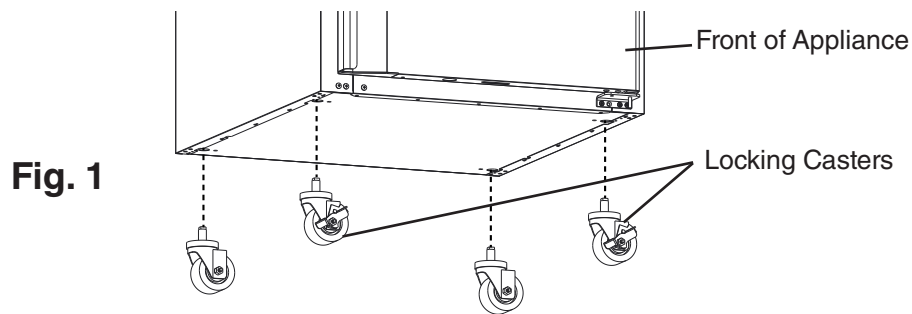

Fig. 1
- a) Casters: Attach and tighten the casters to the bottom of the appliance. Locking casters should be attached to the front of the appliance. See Fig. 1.